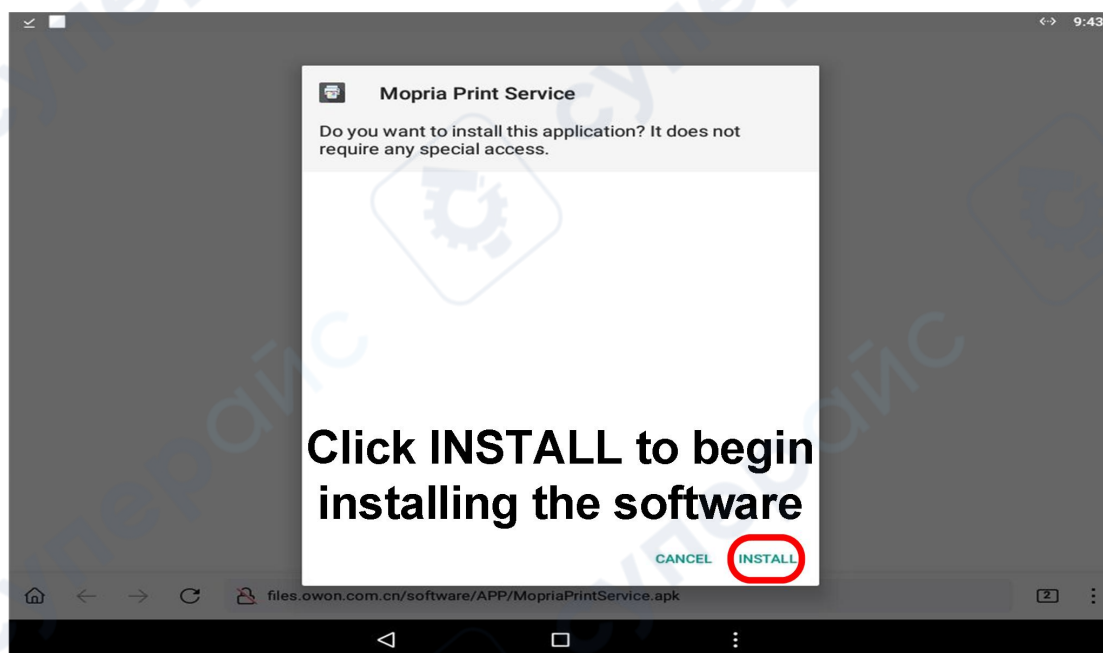

Figure 3
③ Click **INSTALL**, start to install print app, as shown in Figure 3.